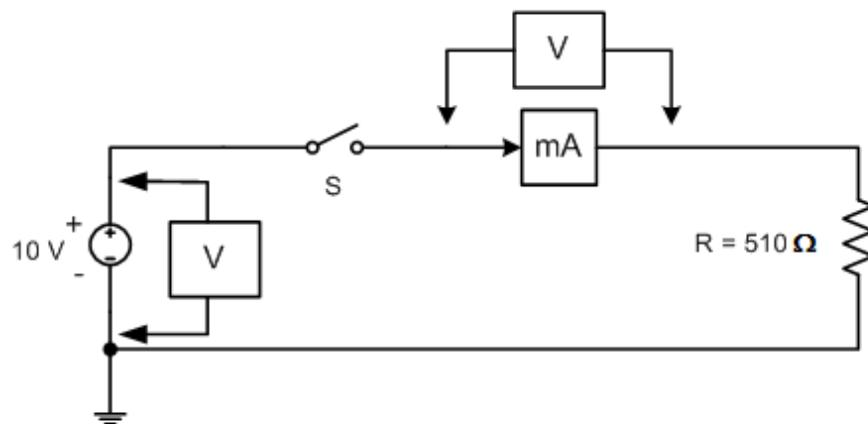

Figure 4.2
Step 2: Connect the circuit shown in Figure 4.2 on the protoboard, but ***do not connect the voltmeter to the circuit yet.***